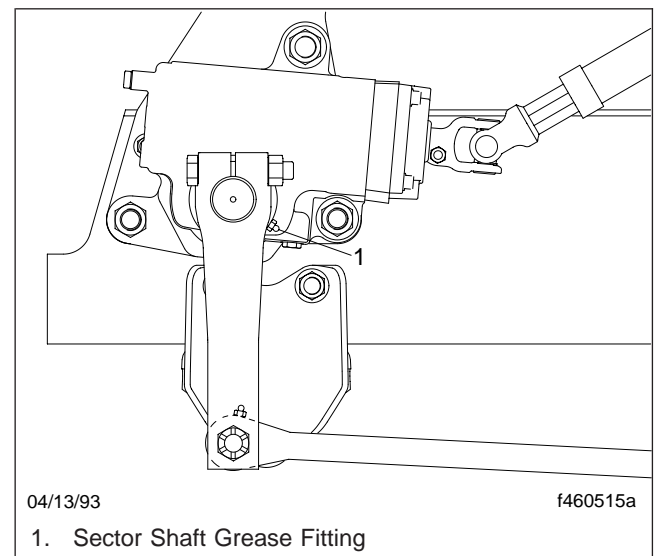

Fig. 11, TRW TAS Series Sector Shaft Lubricating
1. Wipe off debris from the grease fitting. See Fig. 11.